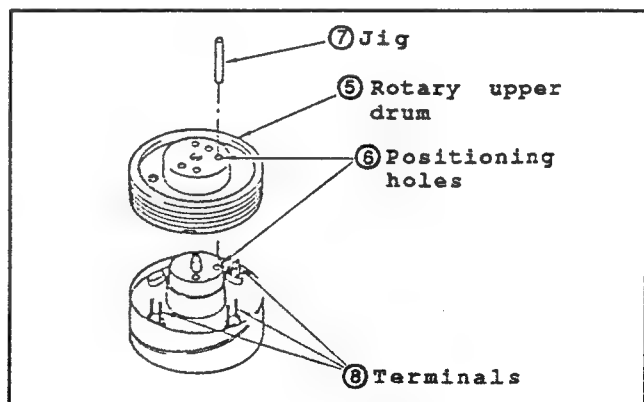

Fig.II-29
- (1) Clean the flange surface and the rotary upper drum ⑤ surface which faced the flange surface. Check that there is no dust particles and flaws.
- (2) Insert the jig ⑦ into the drum positioning holes of upper/lower rotary drum. (Fig.II-29)